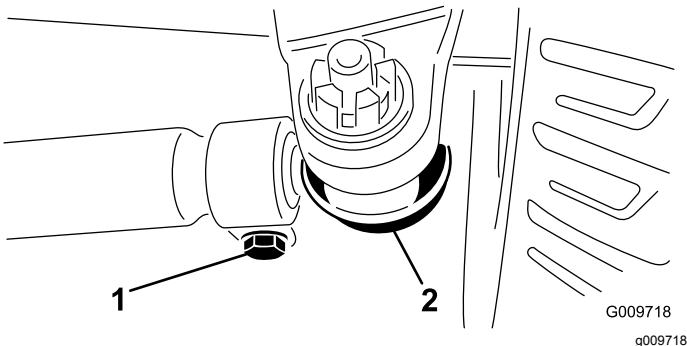

Figure 71
2. To adjust, remove the cotter pin and nut from either tie rod ball joint (Figure 71) and remove the tie-rod ball joint from axle case support.
3. Loosen the clamps at both ends of the tie rods (Figure 71).
4. Rotate the detached ball joint inward or outward one (1) complete revolution and tighten the clamp at the loose end of the tie rod.